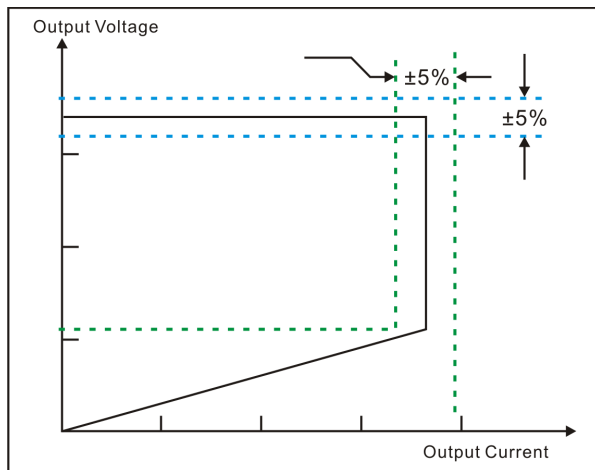

Figure 1. Typical CC/CV Curve
RS2135 is a high performance offline PWM Power switch for low power AC/DC charger and adaptor applications. It operates in primary-side sensing and regulation. Consequently, opto-coupler and 431 could be eliminated. Proprietary Constant Voltage (CV) and Constant Current (CC) control is integrated as shown in the Figure 1.
RS2135 is designed to produce good CC/CV control characteristic as shown in the Figure 1.